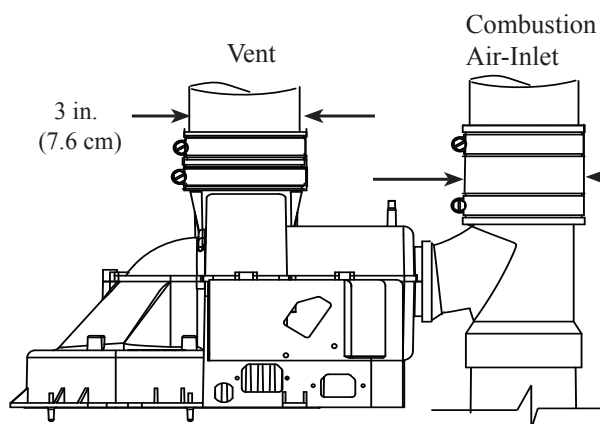

Figure 1
Connect vent system piping to the blower assembly using the already installed 3 in. (7.6 cm) diameter rubber coupling and clamps. Connect the combustion air-inlet system piping to the combustion air-inlet piping tee using the 3 in. (7.6 cm) already installed rubber coupling and clamps (See Figure 1). For vent and combustion air-inlet terminals, use the two (2), 3 in. (7.6 cm) diameter, Schedule 40, PVC, 90°, ¼ standard bend, elbows and wire mesh screen assemblies supplied with the water heater.